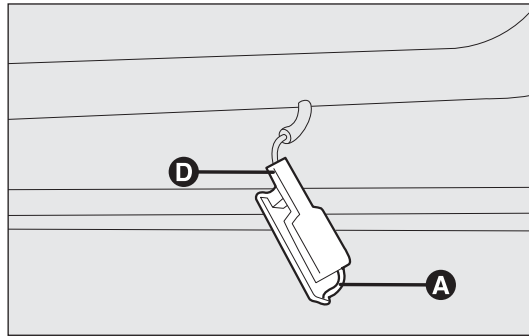

fig. 186
## PUDDLE LIGHTS fig. 186
- remove the light by pressing clip A-fig. 186 with a screw-driver;
- refit the light by first inserting side D-fig. 186 and then pressing the other side until you hear the clip lock into place.